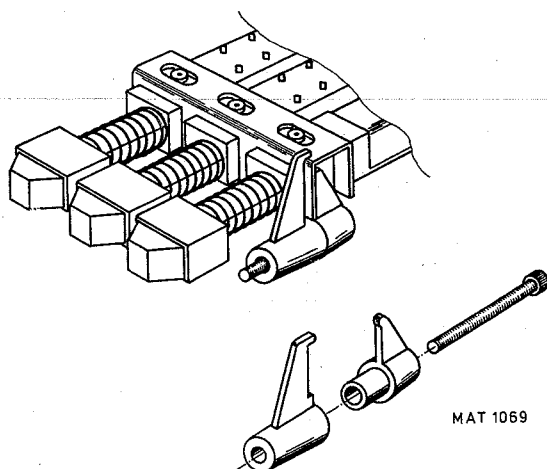

Fig. 6.9.
- Before the pushbutton switches are refitted to the front panel, it is advisable to stick the two parts of each clamping device together by means of adhesive tape or non-hardening glue, in order to facilitate replacement, refer to Fig. 6.9.